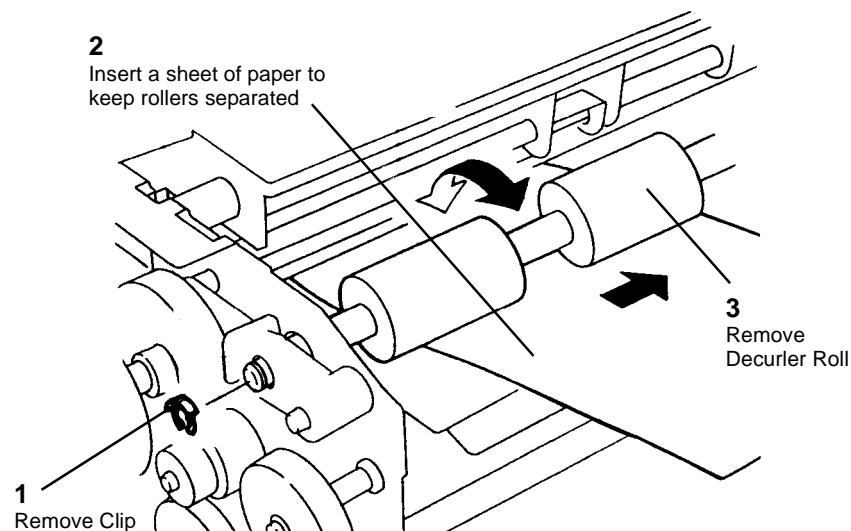

Figure 2 Removing the Decurler Roll
3. Remove the Decurler Roll (Figure 2).